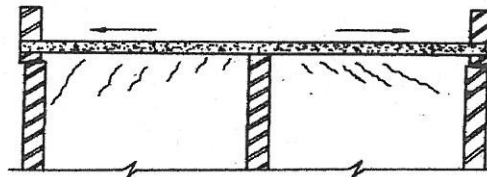

Fig. 1
- b Identify the type of cracks seen on the wall surface of the building shown in Fig.1. Explain the cause of occurrence of these cracks and state the measures required to be taken to prevent such cracks. CO2 06